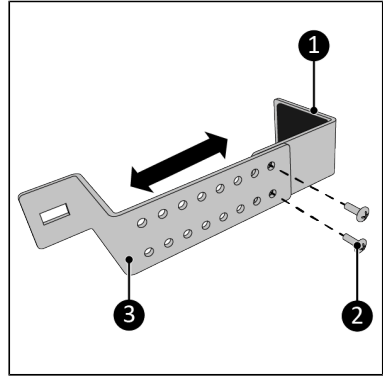

Figure 94.
2. Screw the top part (Figure 94, pos. 1) and the bottom part (Figure 94, pos. 3) together at a wide distance using the two M5 x 10 mm screws (Figure 94, pos. 2). Adjust the distance if necessary.